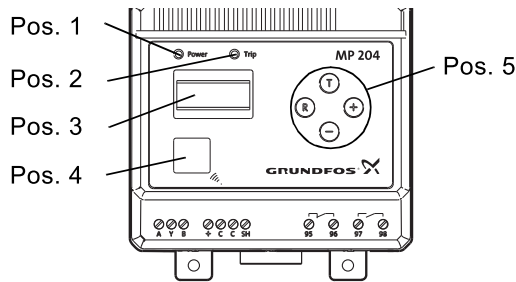

Fig. 14 Control panel
After two minutes of continuous motor operation, "LRN" appears in the display for approx. 5 seconds, while the values are being stored in the MP 204. See fig. 14, pos. 3.